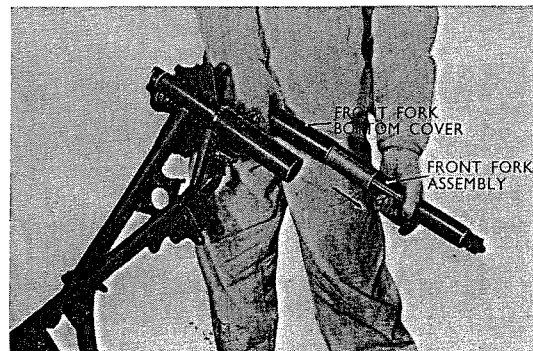

Fig. 4.17 Removing front cushion downward
10. Loosen two 8×32 hex bolts and remove the front cushion in a downward direction. (Refer to Fig. 4.17)